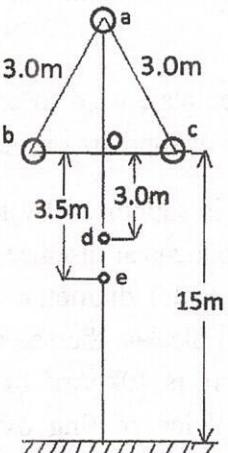

Fig.6(c)
- (c) A 3φ load of 20MW is supplied at a voltage of 132kV, 0.9 power factor at 50Hz, at a distance of 150km. The line conductors are spaced equilaterally 3.0m apart. The effective diameter of the conductors is 1.6cm. The height of the lowest conductor is 15m from the ground. A telephone line runs on the same supporting towers, and the distances between the telephone line and the power line conductors are shown in fig. 6(c). Find the magnitude